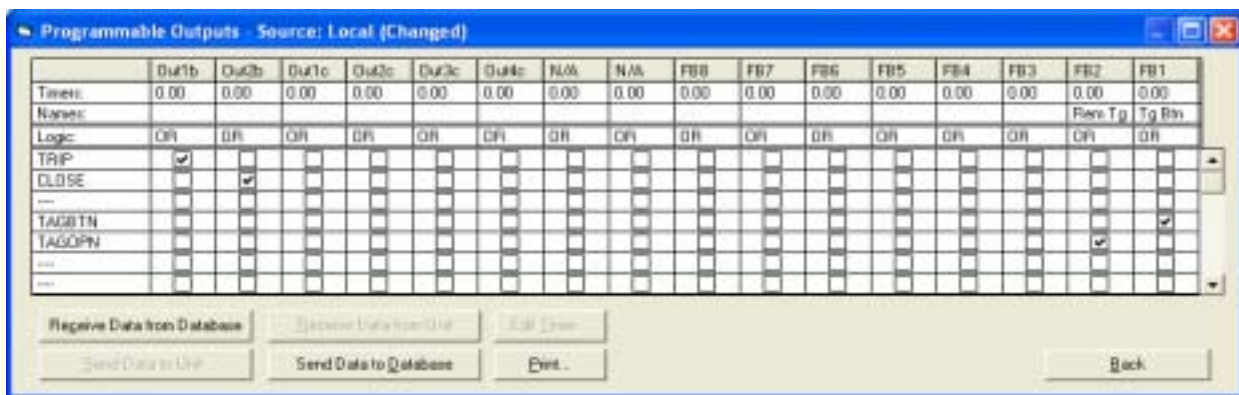

Figure 2. Programmable Outputs
1. For the programmable outputs, map the logical output TAGBTN (which activates when the Hot Line Tag button is pressed) to the **FB1** (feedback 1) contact. This causes the selected feedback contact to close when the Hot Line Tagging button is pressed on the PCD Human Machine Interface (HMI). (See Figure 2)